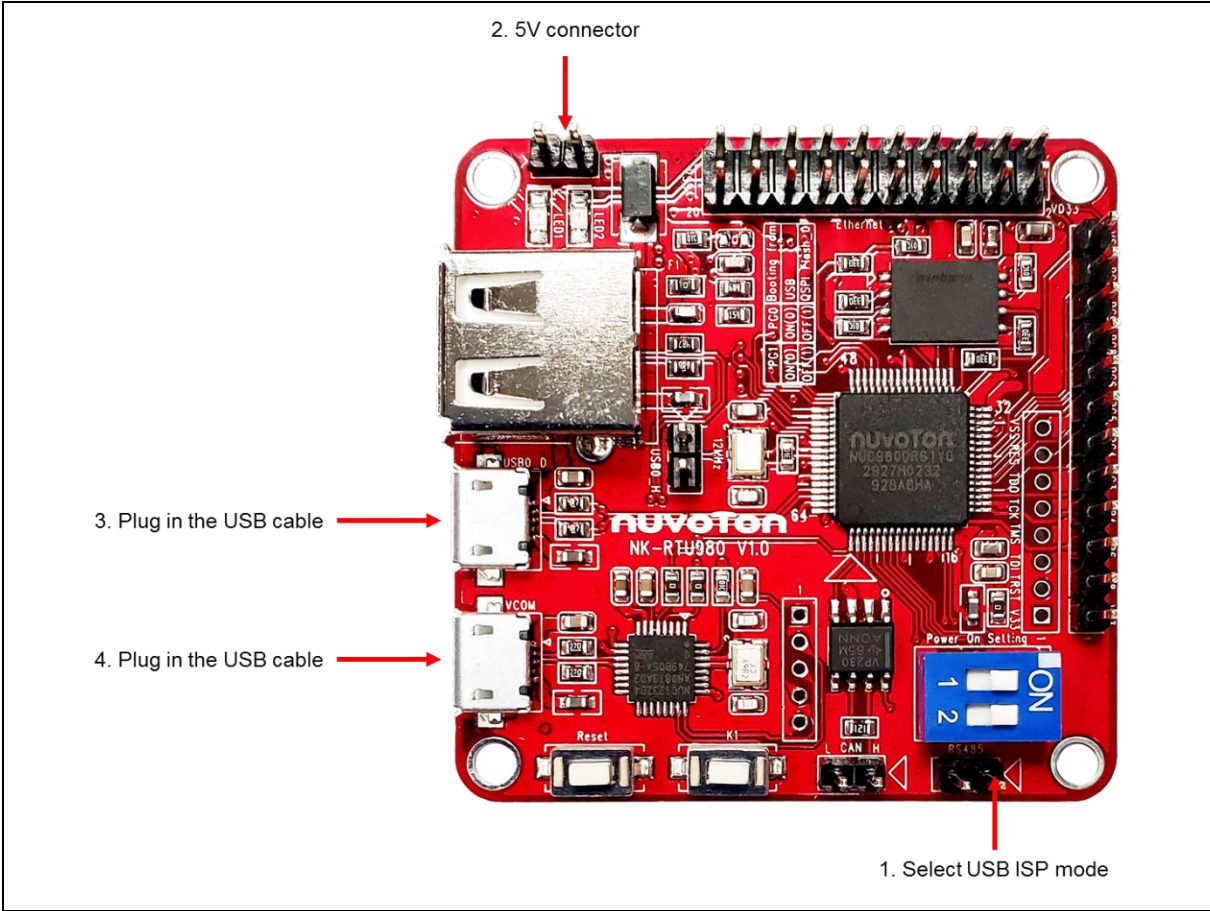

Figure 4-5 Hardware Setting
- 4.5 2. Connect USB-D connector shown Figure 4-5 in to the PC USB port through a USB cable